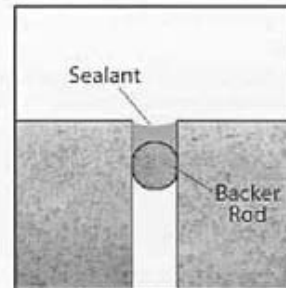

Figure 1
**JOINT DESIGN:** A thin bead of sealant will accommodate more movement than a thick bead. Working joint depths should never exceed 1/2" (12 mm) or be thinner than 1/8" (3 mm), ideally 1/4" (6 mm). The ratio of joint width to depth should be 2 to 1. Joints should be designed or cut to work well within the movement capability of the sealant allowing for erection and installation tolerances, time of year of installation and sealant movement capability. QUIKRETE® Backer Rod (#6917) should be used to prevent three sided adhesion. If joint depth does not allow for backer rod installation, use polyethylene bond breaker tape. See Figure 1.